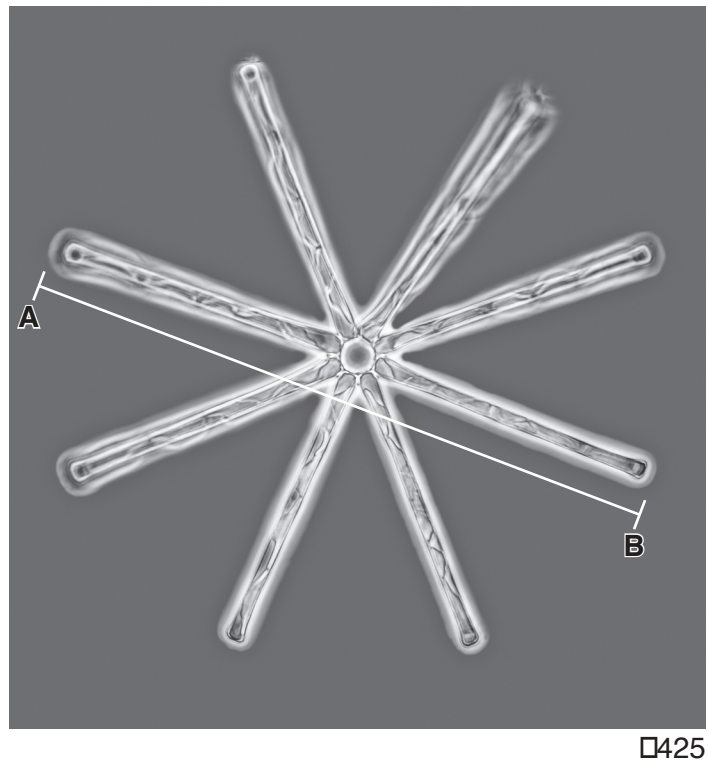

Fig. 2.1
- 2 Fig. 2.1 shows *Asterionella*, which are microscopic algae that live in fresh water.
- (ii) Measure the length of the line **AB** in Fig. 2.1. Include the unit.
Use the formula to calculate the actual diameter of the algae shown in Fig. 2.1. Include the units.